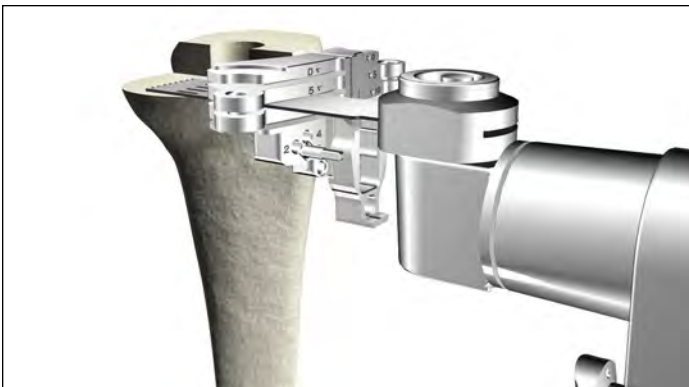

Figure 8
- Make the appropriate 5mm or 10mm tibial augment resections (**Figure 8**).